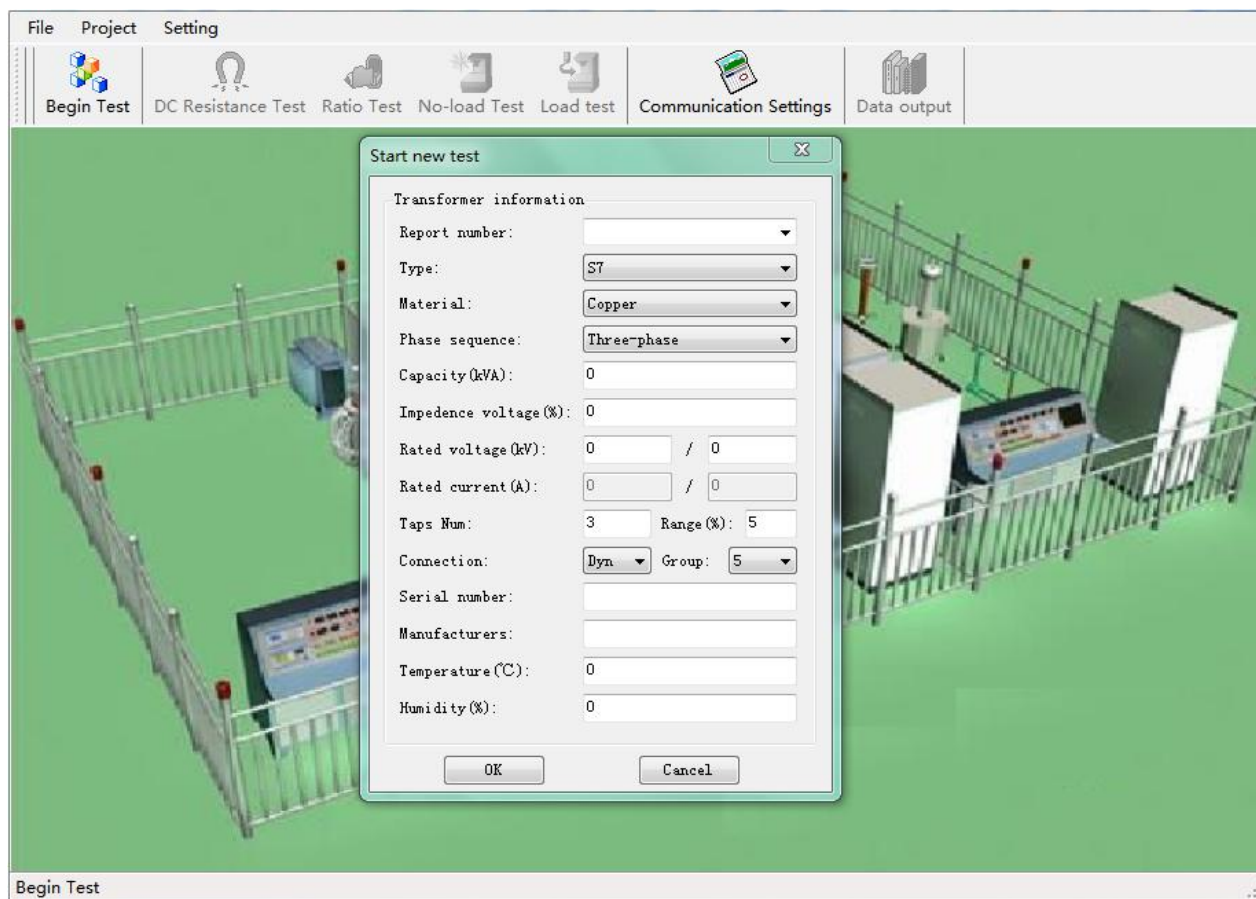

Figure 3 Begin Test
Step 2: Click the button of “Begin Test”, then you get the Figure 3 as below. Please input the Report number and other parameters, then click “OK” for starting testing.